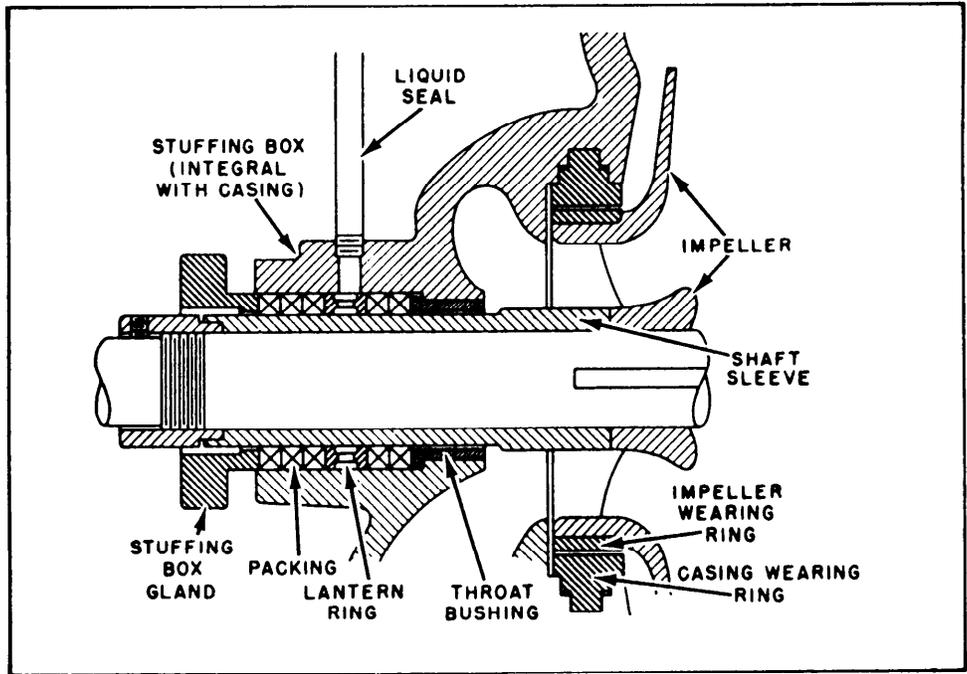

Figure 5-5.—Stuffing box on a centrifugal pump.
In many cases the pump shaft is fitted with shaft sleeves (fig. 5-5). These sleeves protect the shaft from becoming grooved. A shaft that is in direct contact with the packing will become grooved because of its rotation in the packing. It is much cheaper to replace the shaft sleeves than to replace pump shaft. The shaft sleeves are also used to position the impeller axially on the pump shaft.
Recirculating lines are installed on some centrifugal pumps to prevent them from overheating and becoming vapor bound when the discharge is entirely shut off. Seal piping (liquid seal) is also installed to cool the shaft and the packing, to lubricate the packing, and to seal the joint between the shaft and the packing against air leakage. A lantern ring (spacer) is inserted between the rings of the packing in the stuffing box. Seal piping (fig. 5-5) leads liquid from the discharge side of the pump to the annular space within the lantern ring. The web of the ring is
**CARE OF LANTERN RINGS, SLEEVES, AND FLINGERS.**—When a stuffing box is fitted with a lantern ring, be sure to replace the packing beyond the lantern ring at the bottom of the stuffing box. Also be sure that the sealing water connection to the lantern ring is not blanked off by the packing. (See fig. 5-5.) Sleeves fitted at the packing on the pump shafts must always be tight. These sleeves are usually made secure by shrinking or keying them to the shaft. Ensure that water does not leak between the shaft and shaft sleeve.